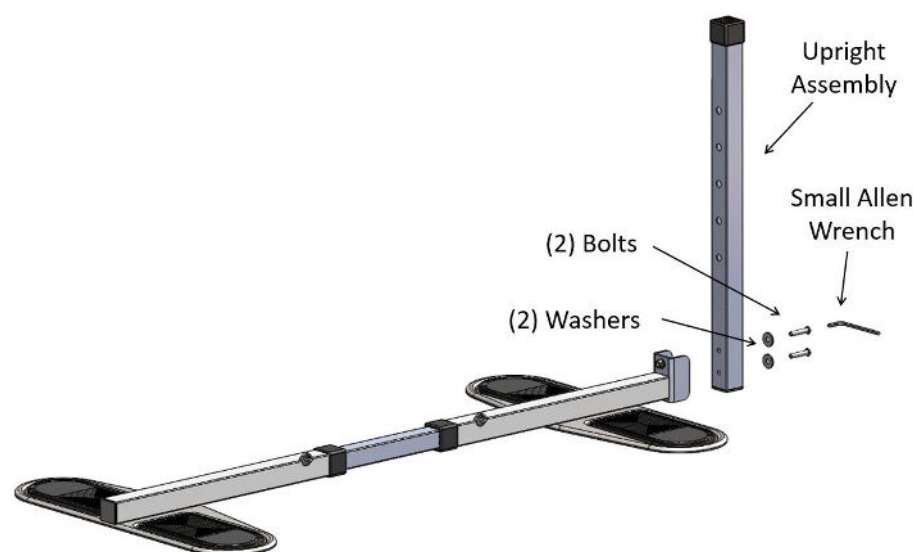

FIGURE 4
4. Attach the Upright Assembly to the Base Front Assembly with the Small Allen Wrench, 2 Bolts, and 2 Washers as shown in Figure 4.